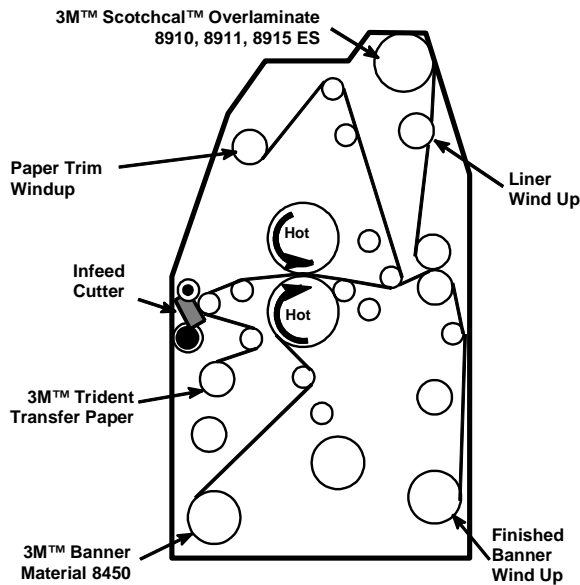

Figure 1. For Front Surface Imaging:
1. Figure 1 shows how to thread banner material and Trident transfer media on an ORCA III laminator. You may apply a recommended overlamine during the same transfer process by threading it as shown.